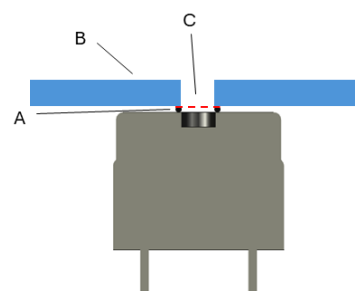

Figure 3
- Fig. 3: A straight opening with the same diameter as the buzzer port.